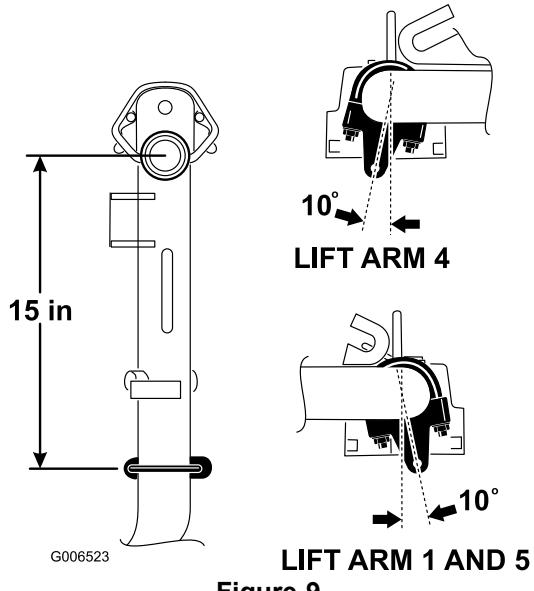

Figure 9
1. On lift arms #1, #4 and #5, position the chain brackets and U-bolts 381 mm (15 inches) behind the center line of the pivot knuckle (Figure 9). On lift arms #1 and #5 the brackets should be rotated to the right 10 degrees from vertical (Figure 9). On lift arm #4 the bracket should be rotated to the left 10 degrees from vertical (Figure 9).